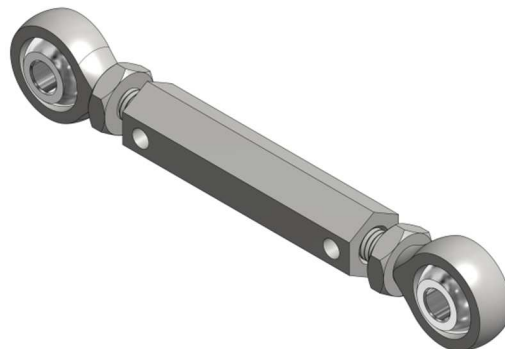

Figure 4: Turnbuckle Assembly
- Thread the #10-32 right-hand hex nut as far as possible onto the #10-32 right-hand rod end by hand. Do the same with the #10-32 left-hand hex nut and rod end. Next, thread each rod end into the turnbuckle approximately 19 full turns by hand. One of the holes in the turnbuckle has right-hand threads while the other hole has left-hand threads. When complete, the turnbuckle assembly should look like Figure 4 below.